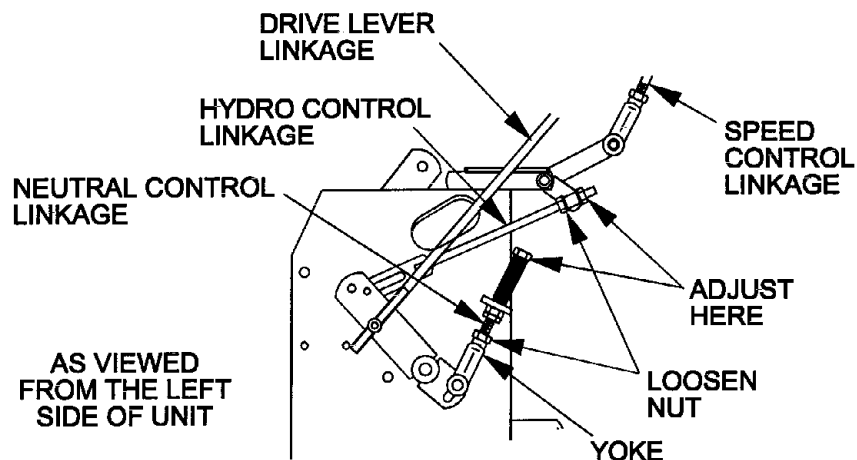
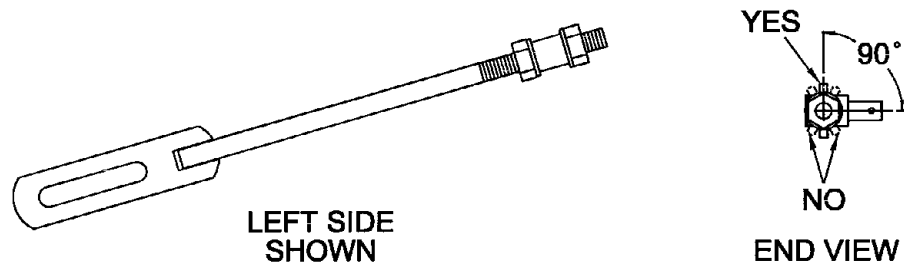

FIG. 9
FIG. 10
4. Loosen the nut against the yoke as shown in Figure 9.
2. Loosen the front nut on **left** hydro control link as shown in Figure 9. Turn the rear control linkage adjusting nut counter-clockwise until wheel rotates forward). Turn the rear nut of left control link clockwise 1/6 of a turn at a time, stopping to move the speed control forward and back to neutral, until left wheel stops rotating forward. Turn the nut an additional 1/2 turn and tighten the front jam nut making sure not to put a bind on the linkage. Make sure flat part of linkage is perpendicular to pin part of swivel. See Fig. 10.